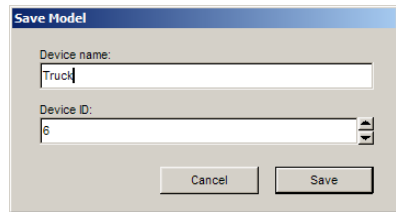

Figure 6.13. Saving a device model
4. If the device model is finished and the new interaction device is to be used in practice, press the “Save” button in order to store the model. A dialog as given in Figure 6.13 appears asking you to enter a model name and ID. Please enter a unique name, select a device ID, and press “Save”.